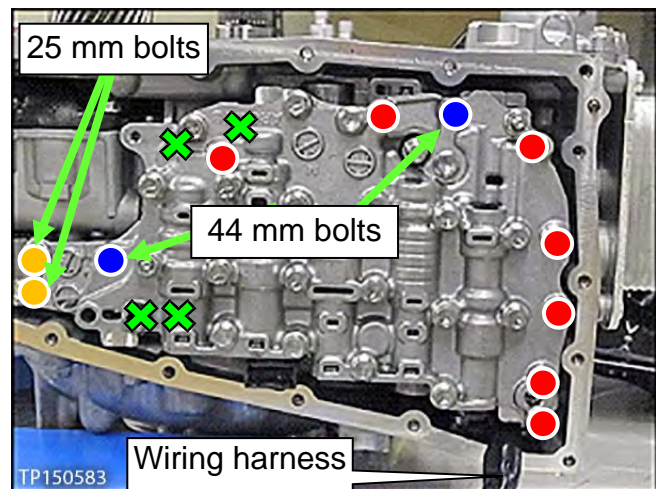

Figure 20
3. Install the Control Valve with nine (9) mounting bolts (Figure 20).
**IMPORTANT:** Leave Four (4)  bolt holes blank at this step.